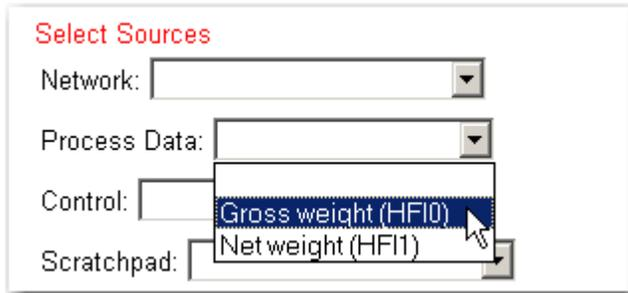

FIG. 333 PROCESS DATA PULL DOWN MENU/SELECTING GROSS WEIGHT (HF10)
- Step 8. Now we want to select the source “Gross Weight” which is Process Data. Click on the Process Data pull down menu. (See Fig. 333)